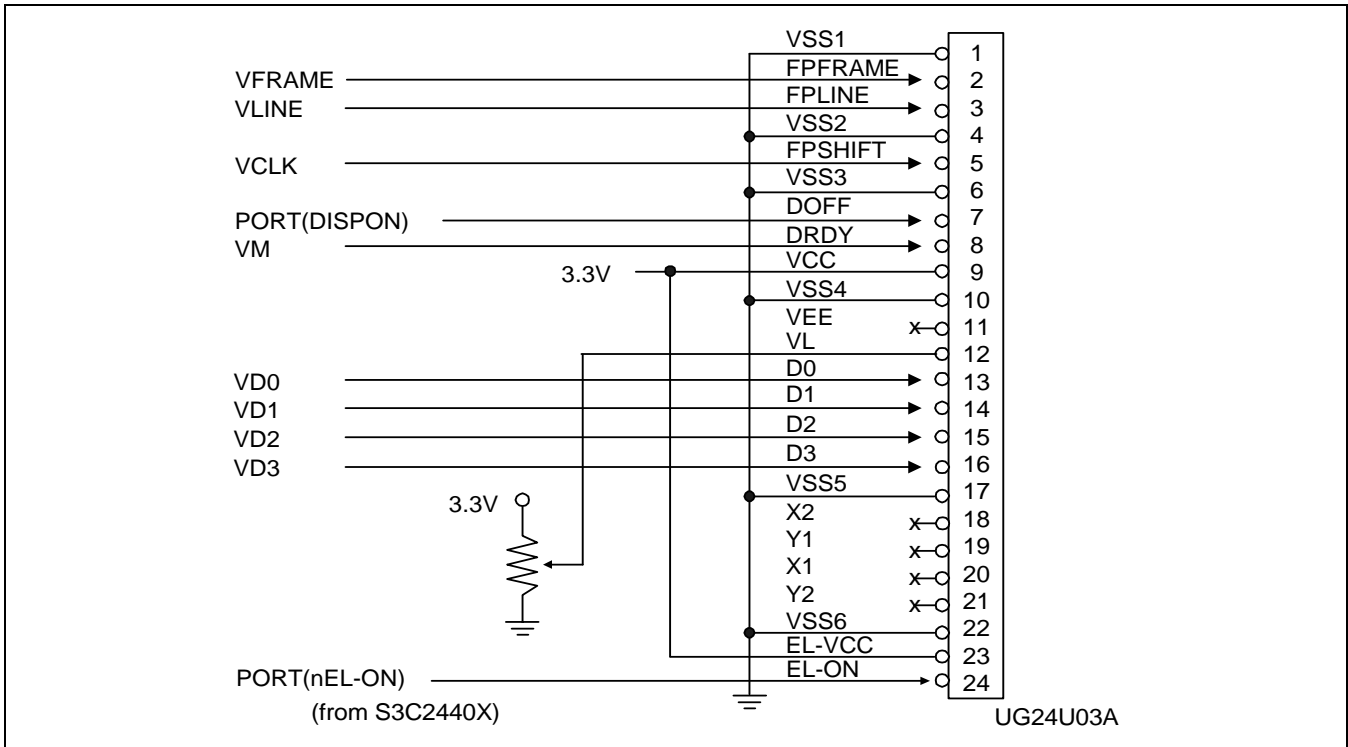

Figure 4-16. UG24U03A Connection with S3C2440A (320x240 Mono STN LCD)
- KHS038AA1AA-G24 (256 color STN LCD) from KYOCERA Co. (refer to Figure 4-16)